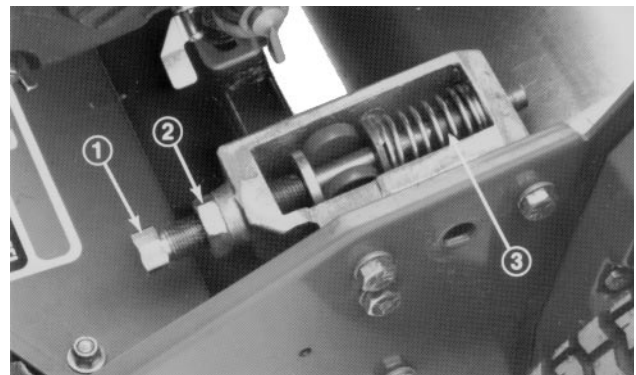
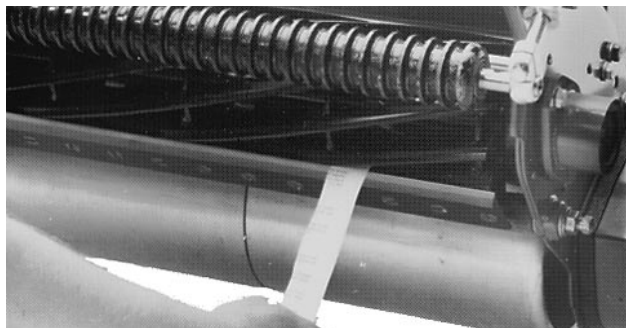

Fig. 4
Fig. 5
7. Loosen the four roller bearing screws and the screw securing the idler pulley. Raise or lower the right side of the roller assembly until the gap is reduced to less than .010". Tighten the roller-bearing screws. Adjust belt tension and tighten idler pulley mounting screw (Fig. 4).
1. Position the machine on a flat, level work surface. Make sure the reel contact is removed by loosening jam nuts on the bedknife adjusting screws and rotating the adjusting screws counterclockwise (Fig. 4).
3. On one end of the front side of the reel, insert a long strip of newspaper between the reel and the bedknife (Fig. 5). While slowly rotating the reel forward, tighten the bedknife adjusting screw (on same end of the reel), one flat at a time, until the paper is pinched lightly when inserted from the front, parallel to the bedknife, which results in a slight drag when the paper is pulled (Fig. 4).
5. After adjustment, check to see if the reel can pinch paper when it is inserted from the front and cut paper when inserted at a right angle to the bedknife (Fig. 5). It should be possible to cut paper with minimum contact between the bedknife and the reel blades. Should excessive reel drag be evident, it will be either necessary to backlap or regrind the cutting unit to achieve the sharp edges needed for precision cutting (see Toro reel sharpening manual).
WARNING: Use caution if removing the bedbar because the adjusting screw springs (Fig. 4) are under tension and could release suddenly.